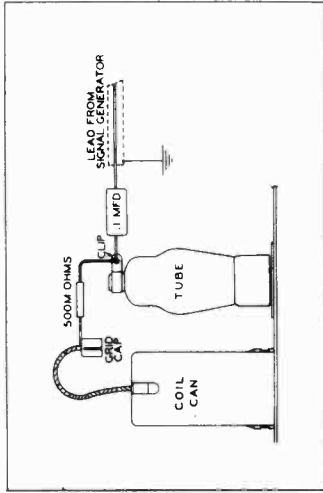

Figure 2
1. Connect the signal generator to the control grid of the Osc.-Mod. tube (6JG6) through a .1 MF. condenser, having first removed the grid cap from the top of the tube. Connect a 500,000 ohm leak resistor from the grid of the tube to the grid cap just removed from the tube. (See Fig. 2). Turn the condenser gang completely out of mesh. Connect an output meter across speaker voice coil.